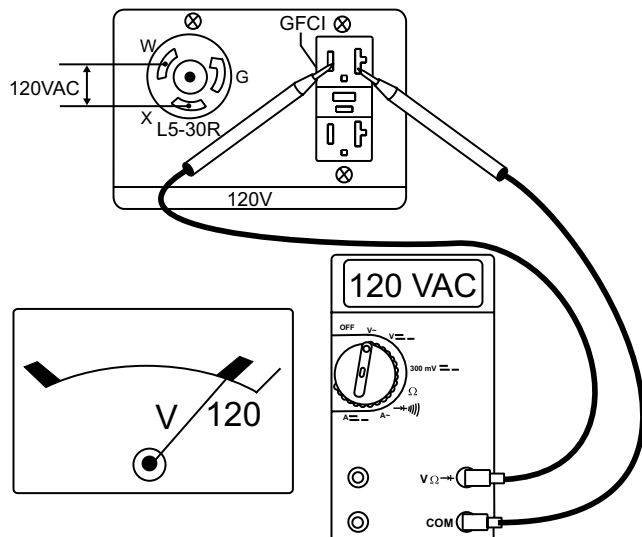

Figure 22. 120V Twist-Lock/GFCI Receptacles
11. Read voltmeter on front panel of generator (Figure 22) and verify that 120 VAC is displayed. Using an external voltmeter as shown in Figure 22, verify that 120 VAC is present at the 120V twist-lock and GFCI duplex receptacles.